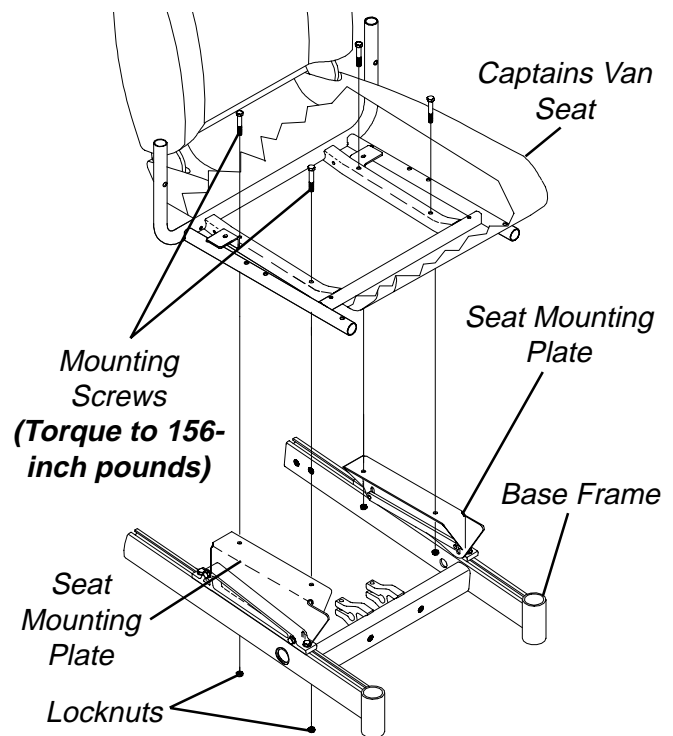

FIGURE 7 - REMOVING/INSTALLING CAPTAINS VAN SEAT ASSEMBLY
INSTALLING/REMOVING CAPTAINS VAN SEAT ASSEMBLY (FIGURE 7)
1. Position the captains van seat on the seat mounting plates at the position shown in FIGURE 7.
3. Secure the captains van seat to the seat mounting plates with four (4) mounting screws, and locknuts. Torque to 156-inch pounds.